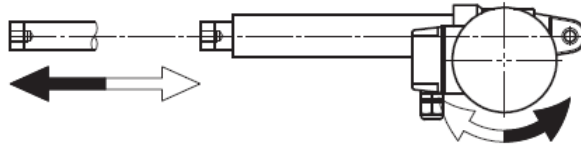

Figure 6.6 – Push rod shifting directions
- The activation positions of the two limit switches are the extreme travel positions Lc and La (see Fig. 6.6).